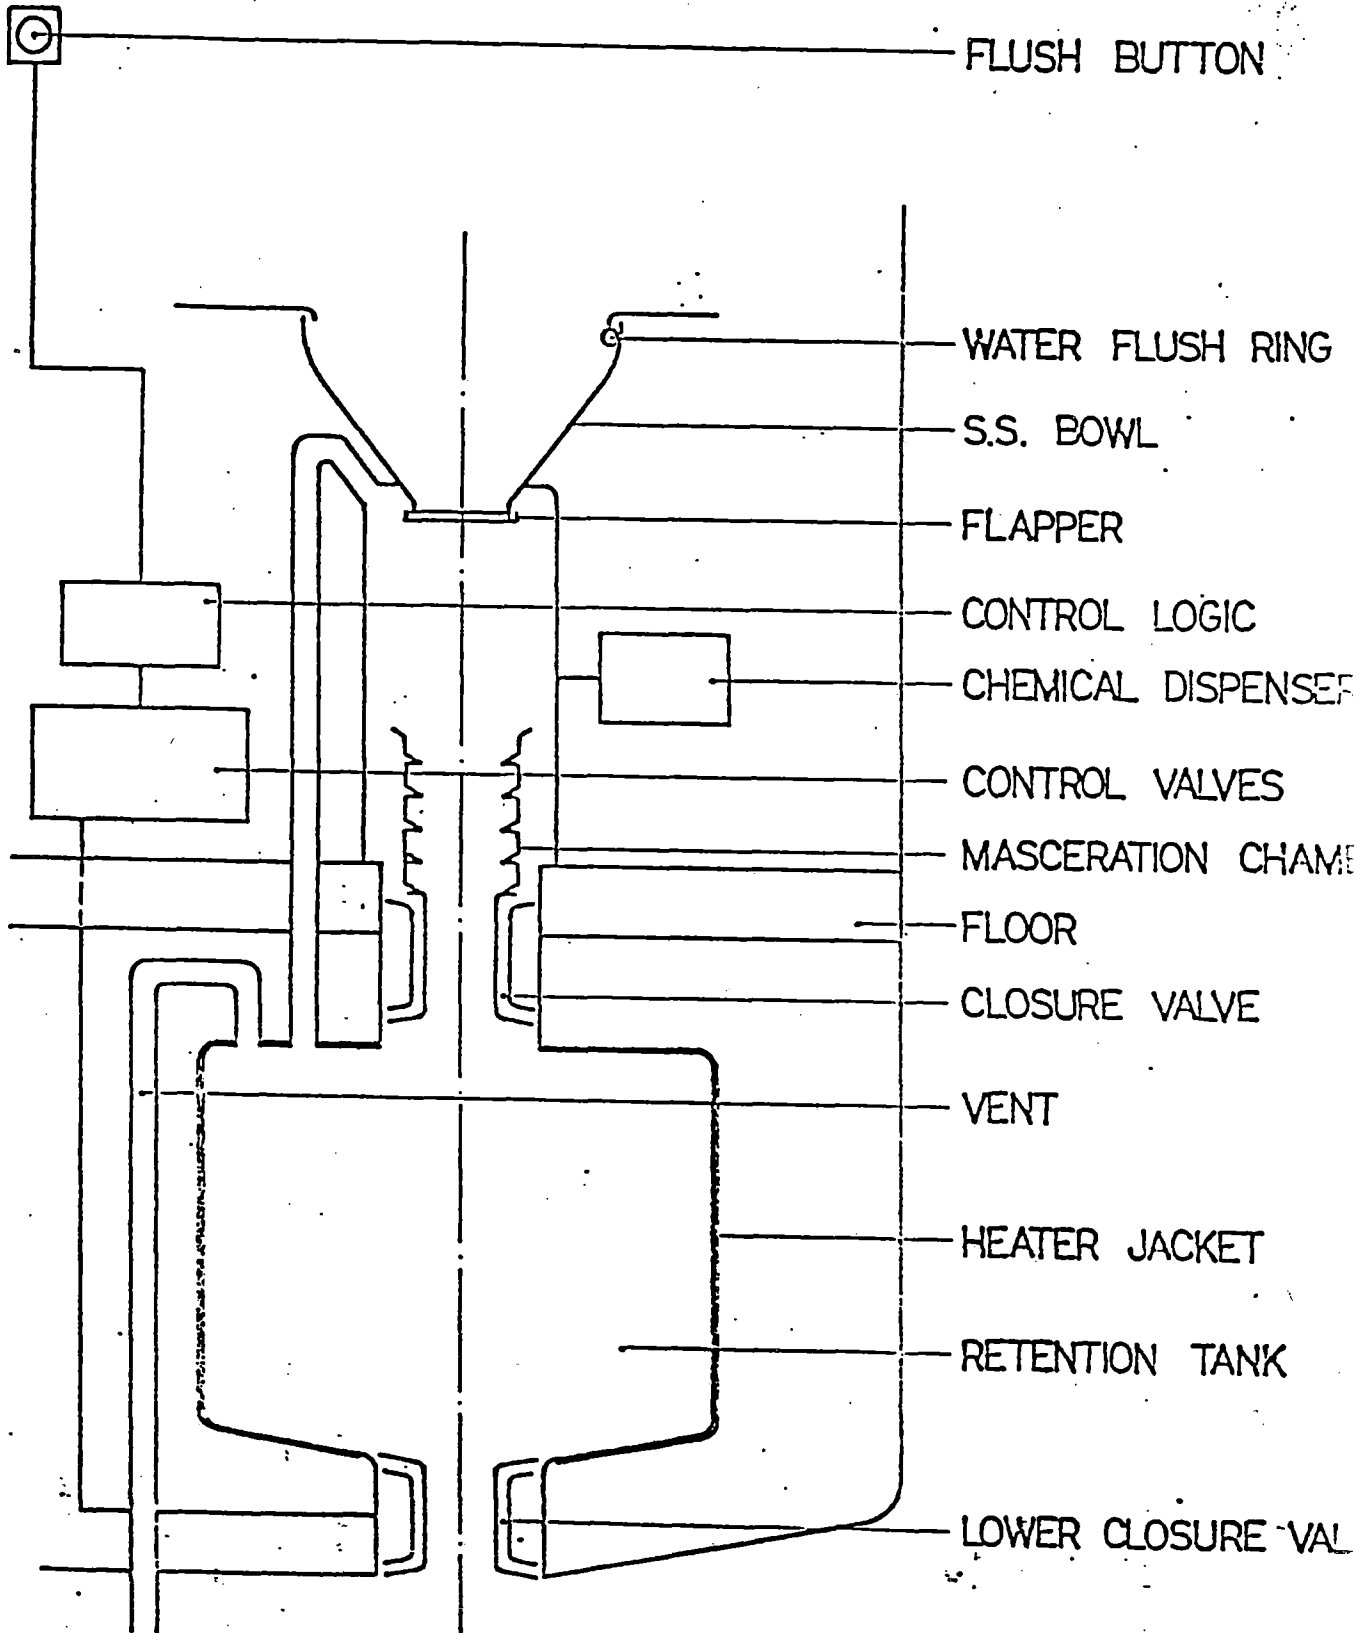

FIGURE 1
2.1 The function of the "On Board Sewage Handling System" is to provide Water Flushed Comnodes. The individual effluents are macerated, treated, and transferred to a remotely located storage tank. Figure 1 represent a typical system. Disposition of the effluent from the retention tank can be in either of the following modes:
6.1 The System Ready for Usage (See Figure 1)
As can be seen in Figure 1, the flapper assembly is closed and a small quantity of water is retained in the bowl. The control switches are in the following position: